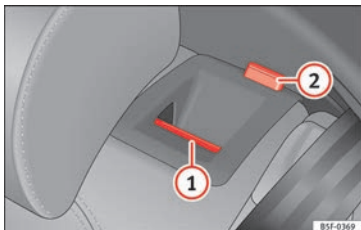

Fig. 143 On the rear seat backrest: release catch (1); red mark (2).
- Push the unlock button » Fig. 143 (1) forwards and at the same time lift the backrest.
- The rear seat backrest is not engaged when the red marking of the button (2) is visible.
The rear seat backrest is not engaged when the red marking of the button » Fig. 143 (2) is visible.